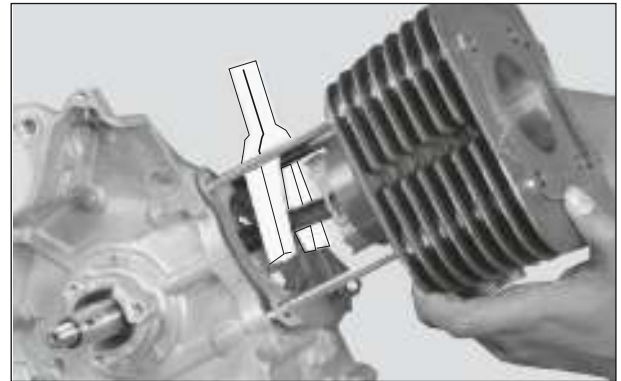

Fig. 3.67
- Pull up the cylinder block complete by keeping the connecting rod holding tool below the piston to avoid damage the of piston while removing the cylinder block complete. (Fig. 3.67)